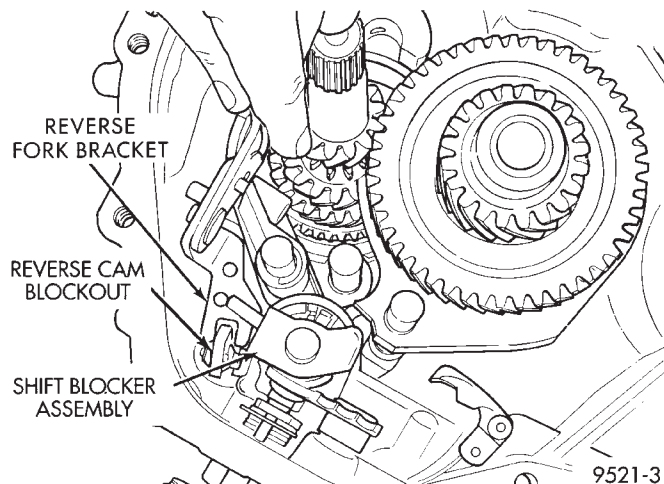
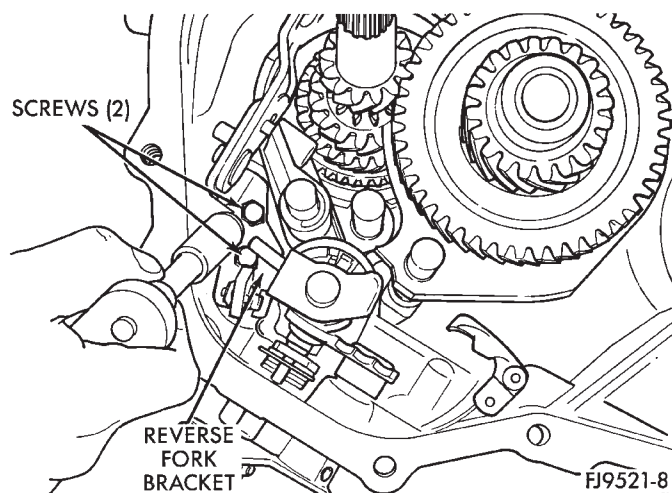

Fig. 82 Reverse Fork Bracket
Fig. 83 Reverse Fork Screws
(19) Install reverse fork bracket and reverse lockout. Tighten screws to 11 N·m (96 in. lbs.) torque (Fig. 82) (Fig. 83).